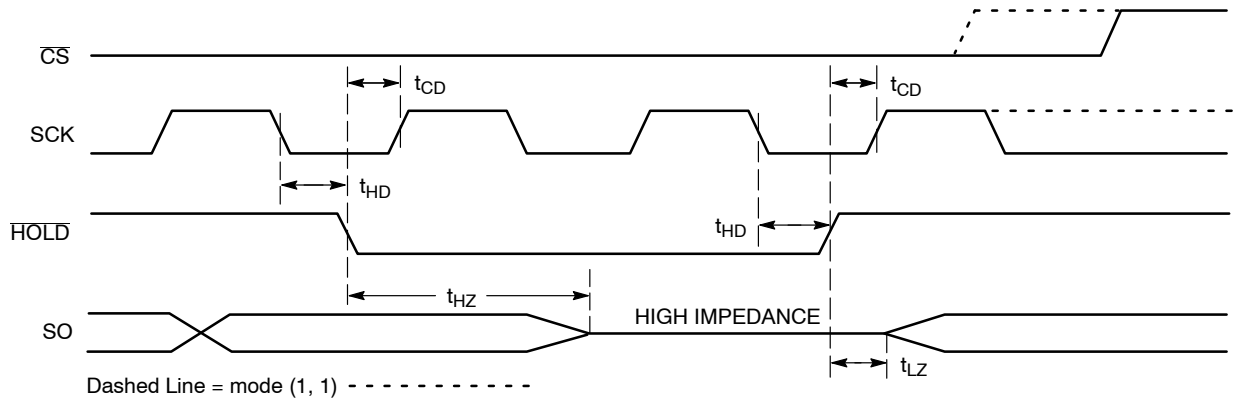

Figure 11. HOLD Timing
The $\overline{\text{HOLD}}$ input can be used to pause communication between host and CAT25320. To pause, $\overline{\text{HOLD}}$ must be taken low while SCK is low (Figure 11). During the hold condition the device must remain selected ($\overline{\text{CS}}$ low). During the pause, the data output pin (SO) is tri-stated (high impedance) and SI transitions are ignored. To resume communication, $\overline{\text{HOLD}}$ must be taken high while SCK is low.